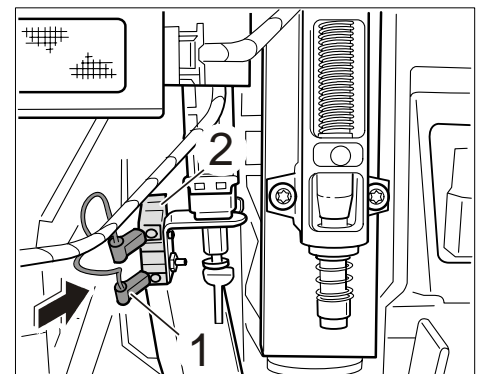

Figure 4
- 4.5 Carefully plug in both connectors ⇒ *Figure 4-1-* on the clutch pedal switch ⇒ *Figure 4-2-* (⇒ *Figure 4-arrow-*).